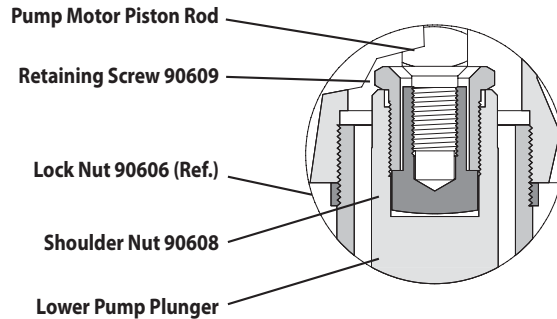

Figure 2
1. Loosen (90606) lock nut and unscrew the entire pump from the air motor. This will expose (90609) retaining screw (see figure 2).
1. Slide (90609) retaining screw over air motor rod (see figure 2).